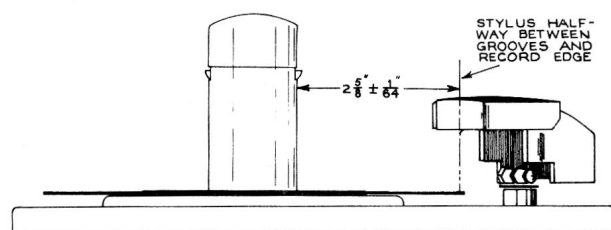

Fig. 36
4. Loosen clamp screw (G) and move pickup arm so the stylus is approximately $2\frac{3}{8}$ " from side of centerpost. Tighten clamp screw. (See Figs. 36, 39.)